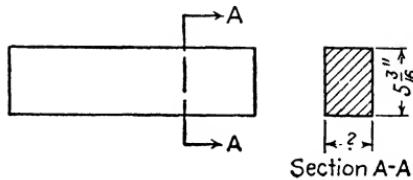

Fig. 70.
6. What must be the width of a rectangular beam whose cross-sectional area is 16.375 sq. in., and whose length is $5\frac{3}{16}$ in. as shown in Fig. 70?